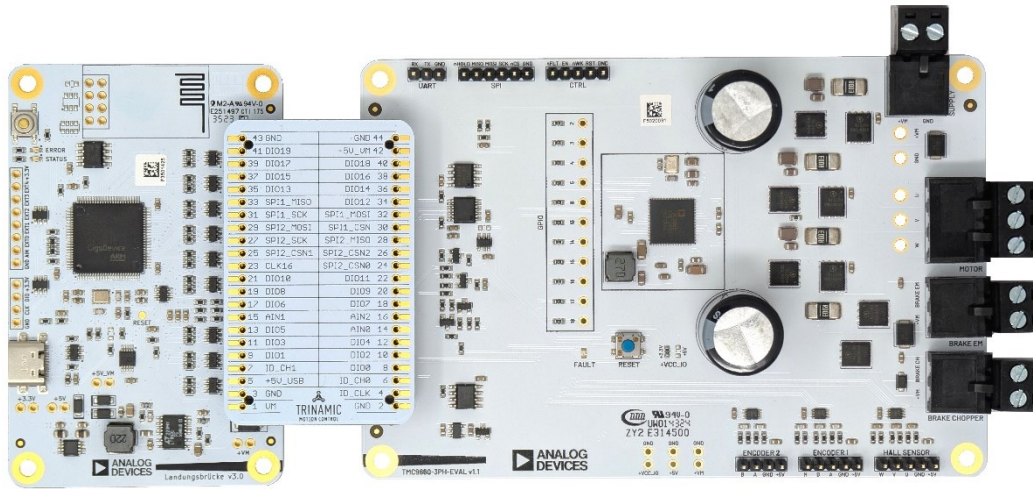

Figure 1. Assembled TMC9660-3PH-EVKIT
1. Interface the TMC9660-3PH-EVAL with the Landungsbruecke through the Eselsbruecke bridge board, as shown in Figure 1. While connecting the boards together, both the Landungsbruecke and the TMC9660-3PH-EVAL must be unpowered. Make sure that every pin in the connector is connected to its corresponding header. The working area is nonconductive to prevent shorting of pins on the backside of the boards.